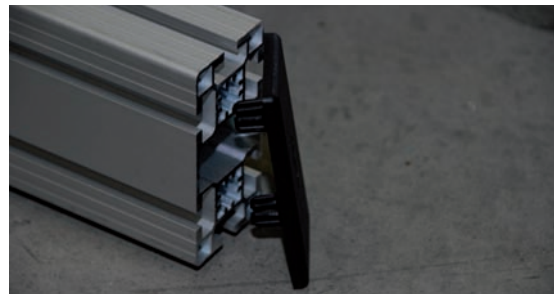

fig. 3.2-11
**Step 9** Finally, put the two (2) black cover caps on the top ends of the side supports **A2a** (**fig. 3.2-11**) and press the four (4) grey PVC combination profiles into the outward lead channels of the side supports (above the cross pieces of the profile connectors, 2 x at the right side and 2 x at the left side).